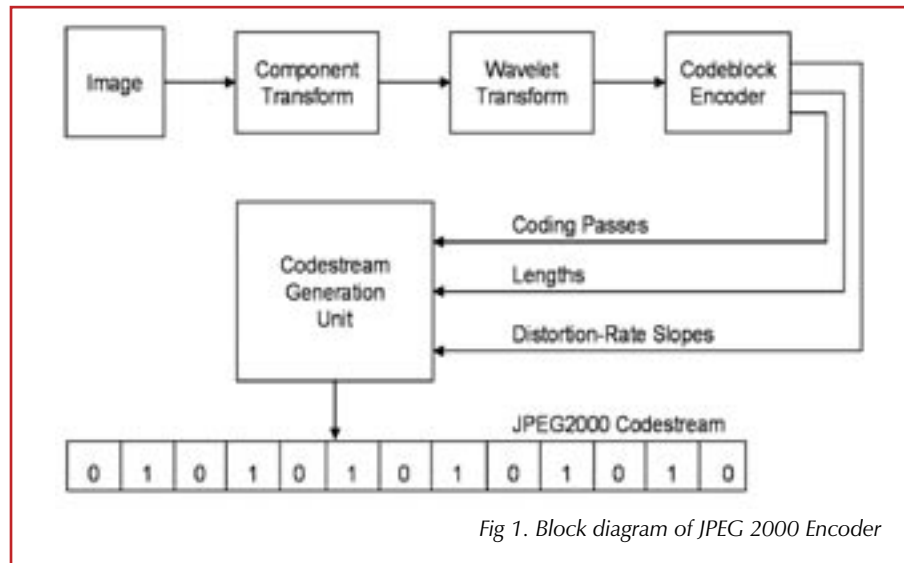

Fig 1. Block diagram of JPEG 2000 Encoder
- The codeblock encoder produces a number of compressed coding passes for each codeblock. It also computes the amount of distortion reduction provided by each coding pass together with the length of the coding pass. This makes it possible to compute a distortion-rate slope for each coding pass. The distortion-rate slope of a coding pass is the amount of distortion reduction per byte provided by the coding pass. A coding pass with a larger distortion-rate slope can be considered more important than one with a smaller distortion-rate slope. See Figure 1 above.